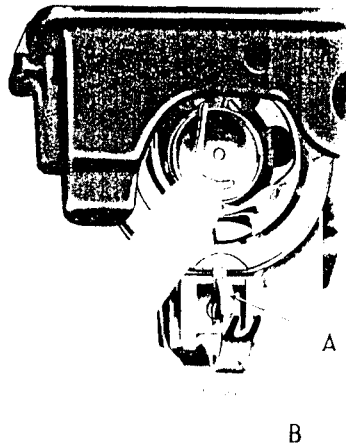

Fig. 7. Removing the Bobbin
**6** with the thumb and lay back the fork **B**, then remove the bobbin case with the forefinger of the left hand as shown in **Fig. 7**. Turn the open side of the bobbin case downward and the bobbin will drop out.